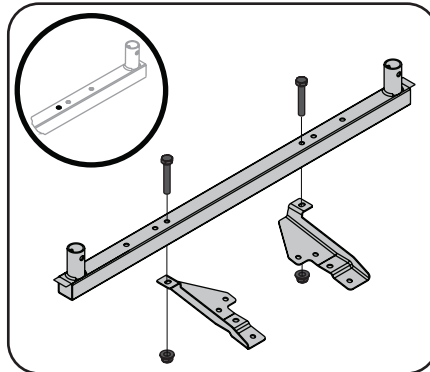

Figure 3-1
3. Assemble Support (683-05347) and Mounting Brackets (789-00433, 789-00434) by using 2 Hex Head Capscrews (710-3180) and 2 nuts (712-04063) as shown in Figure 3-1.